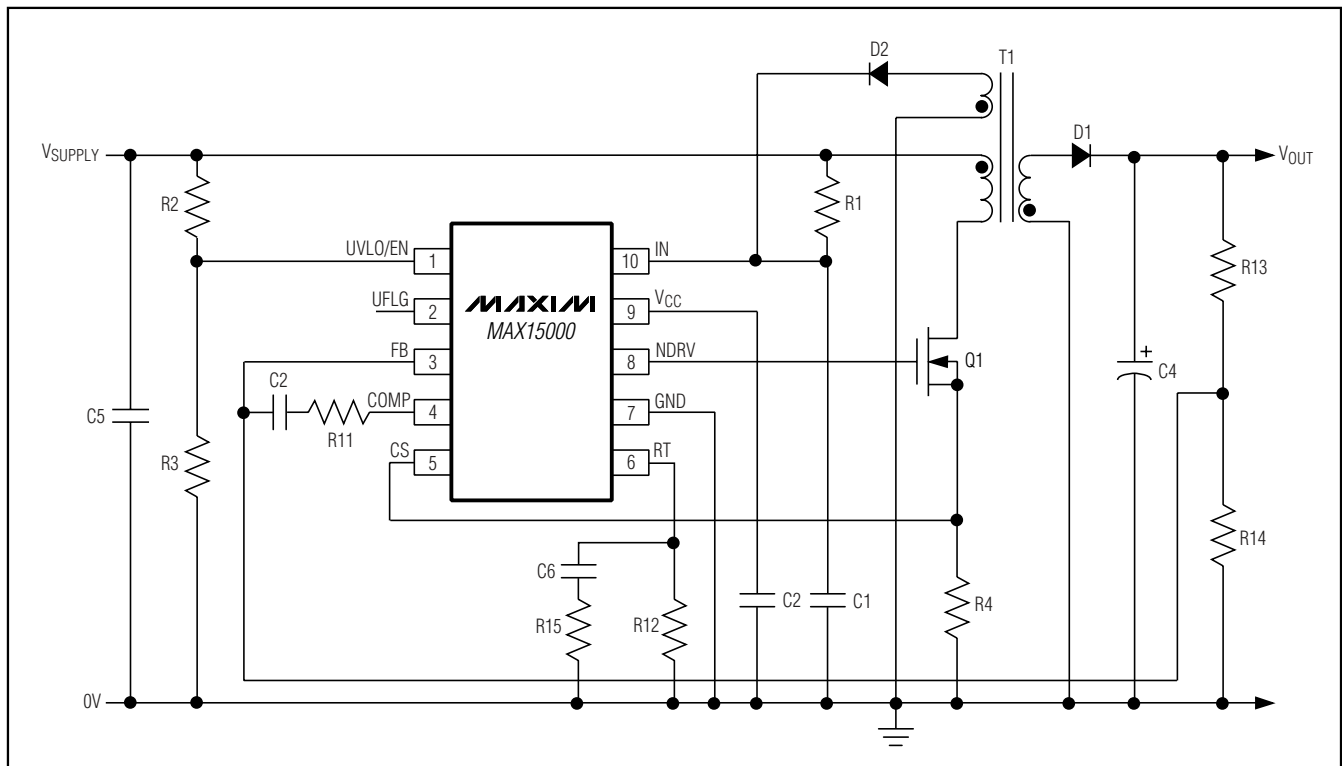
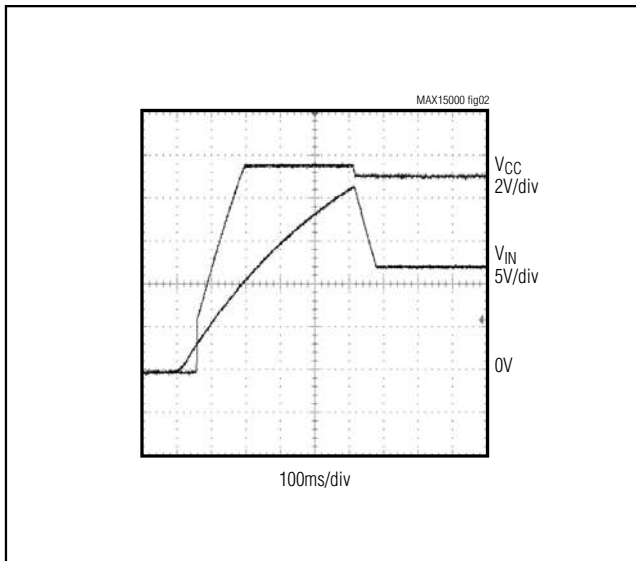

Figure 1. Nonisolated Power Supply with Programmable Input-Supply Start Voltage
Figure 2. V_{IN} and V_{CC} During Startup When Using the MAX15000 in Bootstrapped Mode (Figure 1)
- Note 2:** The MAX15000 is intended for use in universal input power supplies. The internal clamp circuit at IN is used to prevent the bootstrap capacitor (C1 in Figure 1) from charging to a voltage beyond the absolute maximum rating of the device when UVLO/EN is low (shutdown mode). Externally limit the maximum current to IN (hence to clamp) to 2mA maximum when UVLO/EN is low. Clamp currents higher than 2mA may result in a clamp voltage higher than 30V, thus exceeding the absolute maximum rating for IN. For the MAX15001, do not exceed the 24V maximum operating voltage of the device.
Characteristics table). The input is clamped when the devices are started with a bleed resistor (R1 in Figure 1) from a high input voltage and the UVLO/EN input is low. The clamp can safely sink up to 2mA current.
Power supplies designed with the MAX15000 use a high-value startup resistor R1 that charges a reservoir capacitor C1 (see Figure 1). During this initial period, while the voltage is less than the internal bootstrap UVLO threshold, the device typically consumes only 50 μ A of quiescent current. This low startup current and the large bootstrap UVLO hysteresis help to minimize the power dissipation across R1 even at the high end of the universal AC input voltage (265VAC).
Use this UVLO/EN input to program the input-supply start voltage. For example, a reasonable start voltage for a 36V to 72V telecom range is usually 34V. Calculate the resistor-divider values, R2 and R3 (see Figure 1) by using the following formulas:
For the MAX15000, the voltage at IN is normally derived from a tertiary winding of the transformer. However, at startup there is no energy being delivered through the transformer, hence, a special bootstrap sequence is required. Figure 2 shows the voltages at IN and V_{CC} during startup. Initially, both V_{IN} and V_{CC} are 0V. After the line voltage is applied, C1 charges through the startup resistor, R1, to an intermediate voltage. At this point, the internal regulator begins charging C2 (see Figure 1). Only 50 μ A of the current supplied through R1 is used by the MAX15000, the remaining input current charges C1 and C2. The charging of C2 stops when the V_{CC} voltage reaches approximately 9.5V, while the voltage across C1 continues rising until it reaches the wake-up level of 21.6V. Once V_{IN} exceeds the bootstrap UVLO threshold, NDRV begins switching the MOSFET and transfers energy to the secondary and tertiary outputs. If the voltage on the tertiary output builds to higher than 9.74V (the bootstrap UVLO lower
The MAX15000A/MAX15001A and MAX15000B/MAX15001B have programmable output switching frequencies from 25kHz to 625kHz and 12.5kHz to 625kHz, respectively. Use the following formulas to determine the appropriate value of the resistor R_{12} (see Figure 1) needed to generate the desired output switching frequency (f_{SW}) at the NDRV output:
where R_{12} is the resistor connected from R_T to GND (see Figure 1).
Connect an RC network in parallel with R_{12} as shown in Figure 1. The RC network should consist of a 100nF capacitor C_6 (for stability) in series with resistor R_{15} which serves to further minimize jitter. Use the following formula to determine the value of R_{15} :
The MAX15000/MAX15001 include an internal error amplifier to regulate the output voltage in the case of a nonisolated power supply (see Figure 1). For the circuit in Figure 1, calculate the output voltage using the following equation:
The current-sense resistor (R4 in Figure 1), connected between the source of the MOSFET and ground, sets the current limit. The current-limit comparator has a voltage trip level (V_{CS}) of 1V. Use the following equation to calculate the value of R4:
The bypass capacitor at IN, C1, supplies current immediately after the MAX15000 wakes up (see Figure 1). The size of C1 and the connection configuration of the tertiary winding determine the number of cycles available for startup. Large values of C1 increase the startup time but also supply gate charge for more cycles during initial startup. If the value of C1 is too small, V_{IN} drops below 9.74V because NDRV does not have enough time to switch and build up sufficient voltage across the tertiary output which powers the device. The device goes back into UVLO and does not start. Use a low-leakage capacitor for C1 and C2.
The above startup method is applicable to a circuit similar to the one shown in Figure 1. In this circuit, the tertiary winding has the same phase as the output windings. Thus, the voltage on the tertiary winding at any given time is proportional to the output voltage and goes through the same soft-start period as the output voltage. The minimum discharge time of C1 from 21.6V to 9.74V must be greater than the soft-start time of 5.6ms.